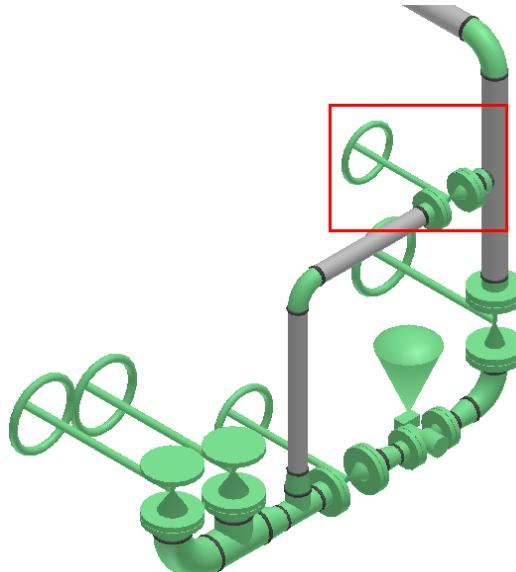

Figure 3.103: Placed Gate Valve
63. Click **Finish** on the **Insert Component** ribbon to place the gate valve, as shown in Figure 3.103.